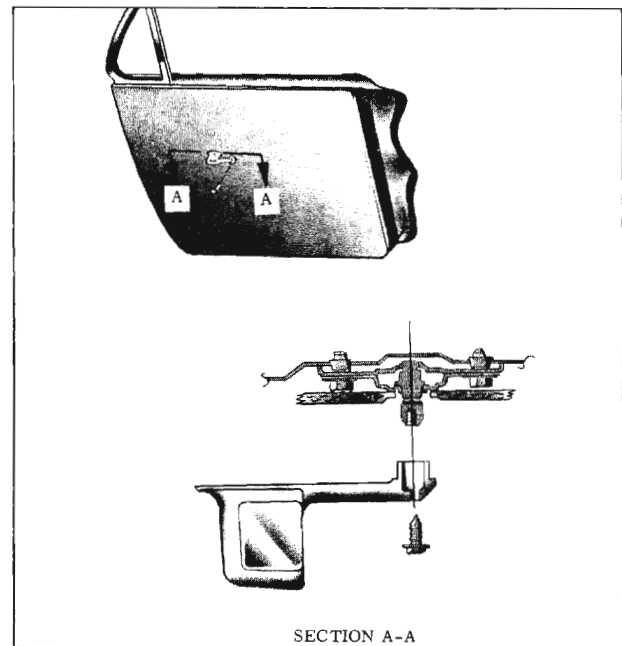

Fig. 16-234 Door Inside Remote Control "Paddle" Handles
1. On styles equipped with a paddle handle, remove door arm rest and remove handle-to-remote attaching bolt and remove handle from door. (Fig. 16-234)